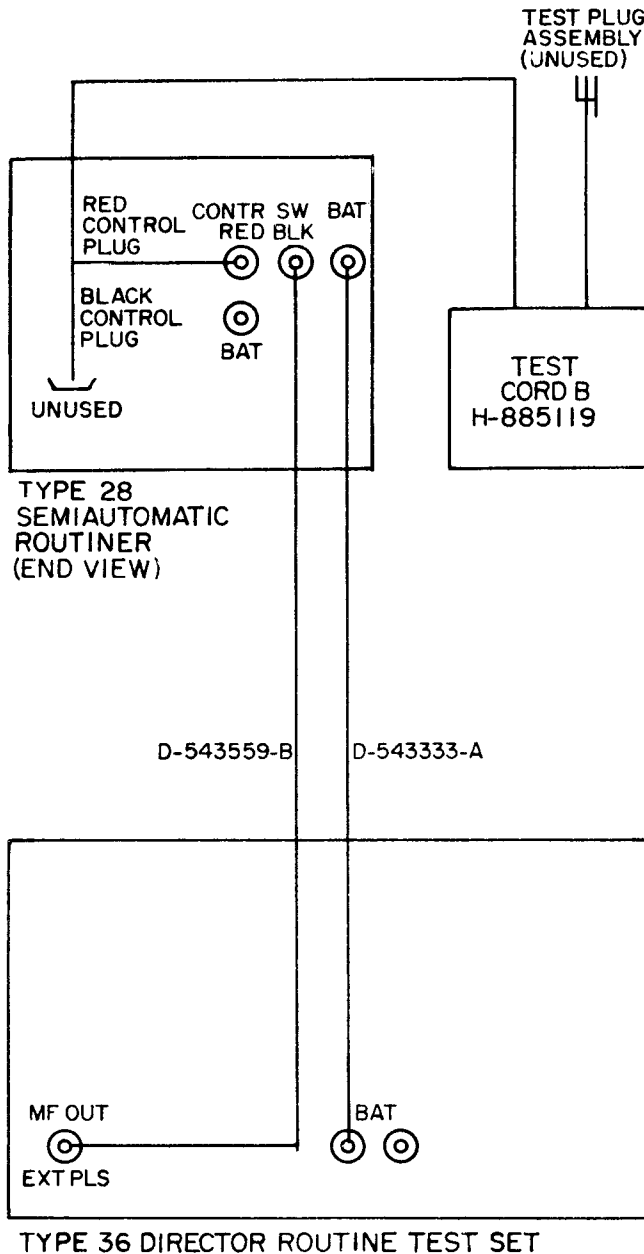

Figure 3. Type 28 Semi-Automatic Routiner Test Connections.
SW BLK jack on the Type 28 routiner. See Figure 3.
- (b) Connect the red control plug on the H-885119 Test Cord B to the CONTR RED jack on the routiner as shown in Figure 3.